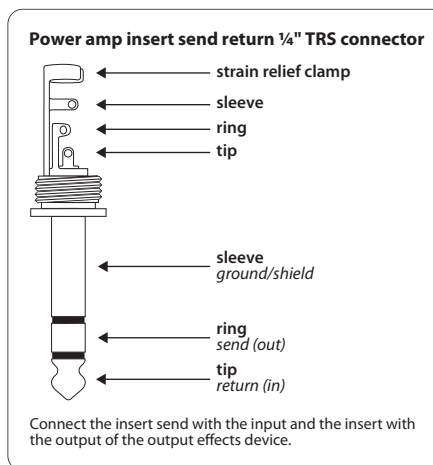

Fig. 4.5: Stereo 1/4" TRS connector for power amp ISR connection
- Furthermore, it is possible to use the POWER AMP INSERT as a conventional insert to add a compressor or graphic equalizer to the signal path, for instance. Here, a balanced, stereo jack cable is required and the assignment of tip and ring needs to be observed according to Figure 4.5 (see Chapter 4.2 "Audio Connections"). In this case, the ring is the so-called Send, which is connected to the input of the additional device, and the tip is referred to as Return, which is connected to the output of the additional device.